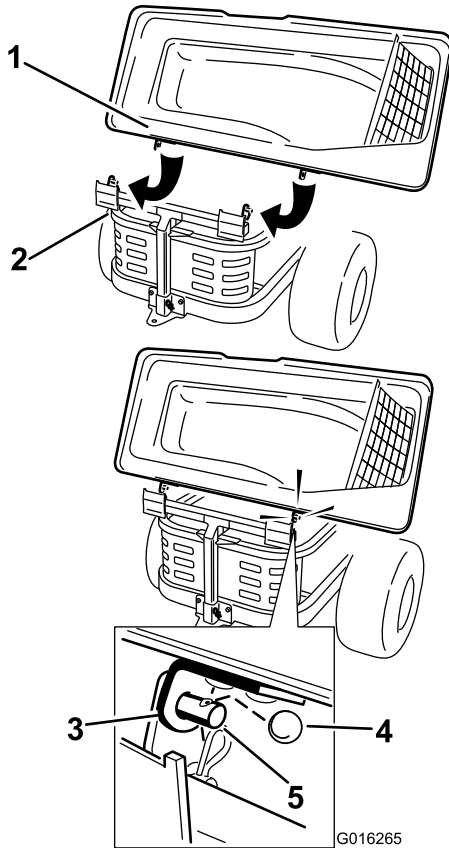

Figure 11
1. Install the bagger top to the bagger frame. Slide the brackets over the posts in the bagger frame and install the circular cotter into the hole in the right hand post (Figure 11). Rotate the bagger top down to the operating position. The bagger top is easier to install if two people work together.